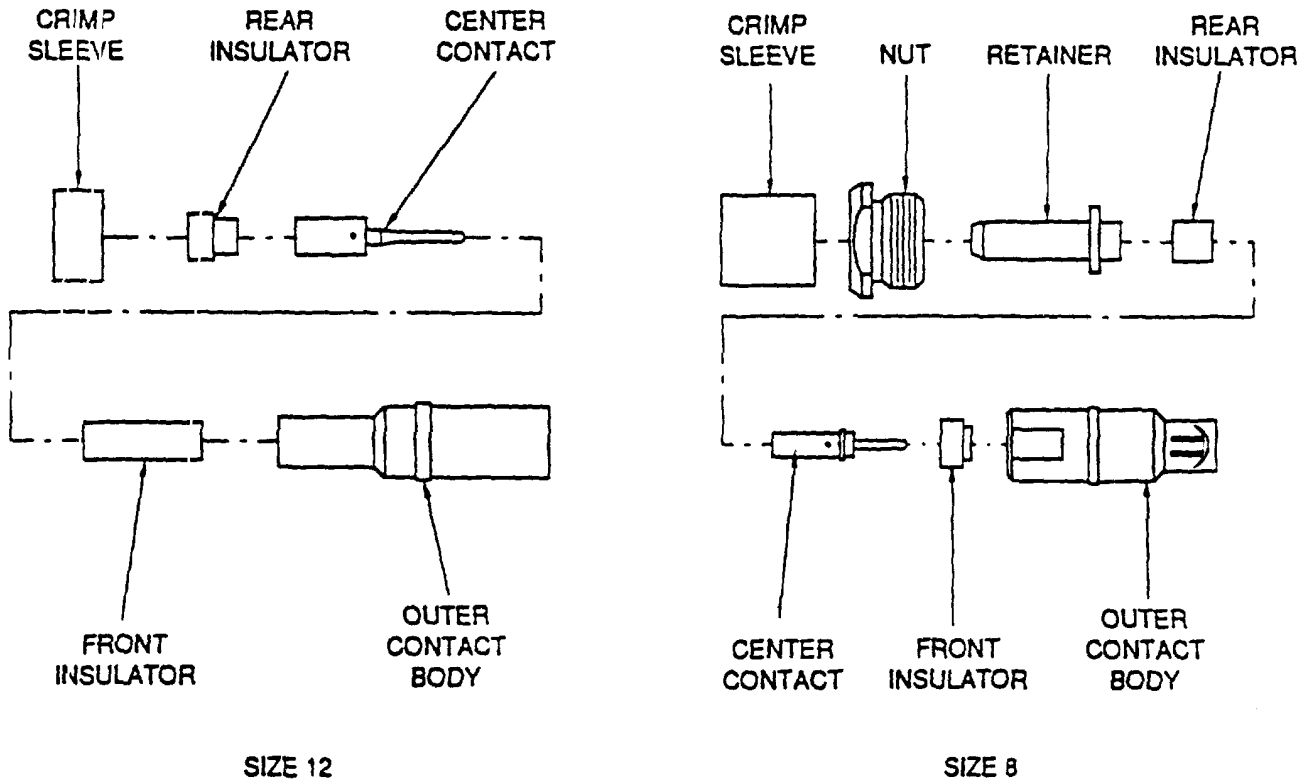

Figure 4. Typical Coaxial Shield Assembly
10. **COAXIAL CONTACT CRIMPING AND ASSEMBLY.** A coaxial contact may be crimped and assembled in numerous ways. The assembly procedures provided herein are for known standard assemblies. A typical example of a coaxial contact assembly is shown in Figure 4.